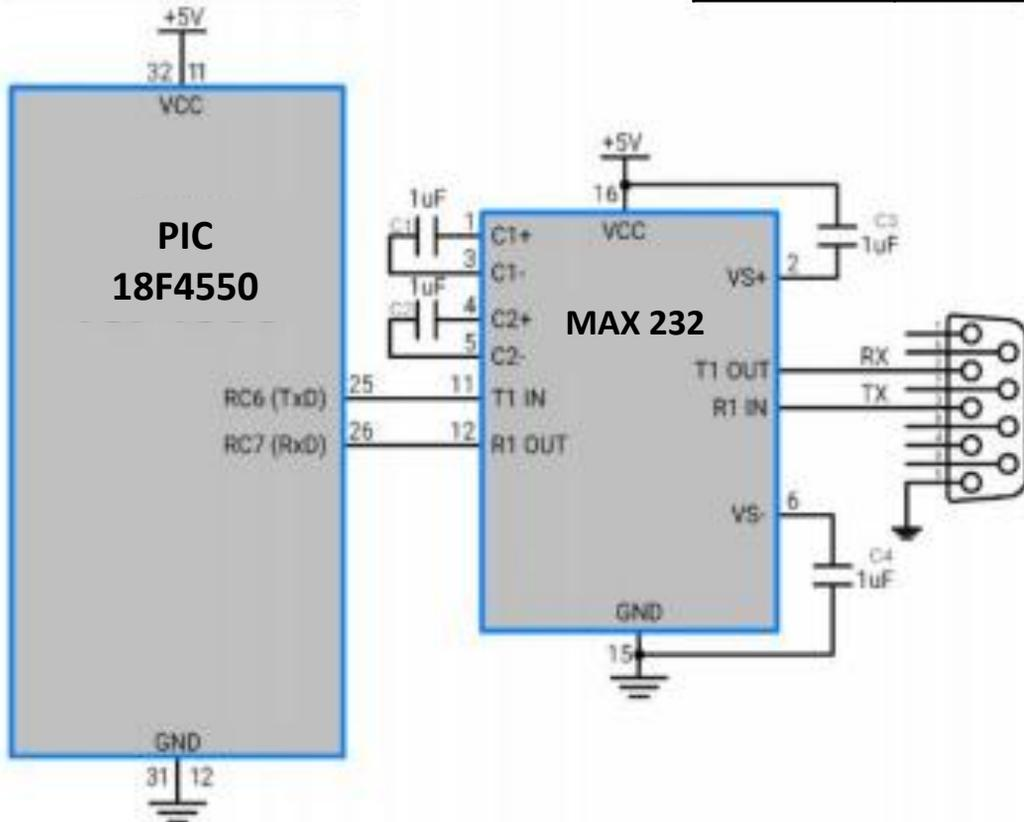

Figure 4.8: PIC18F4550 microcontroller RS232 USART communication setup
- Figure 4.7 shows where the two interrupt pins are located in the PIR1 registers while Figure 4.8 shows the setup for using the PIC18F4550 microcontroller for RS232 serial communication transmission. Notice that the two pins used are TxD and RxD.